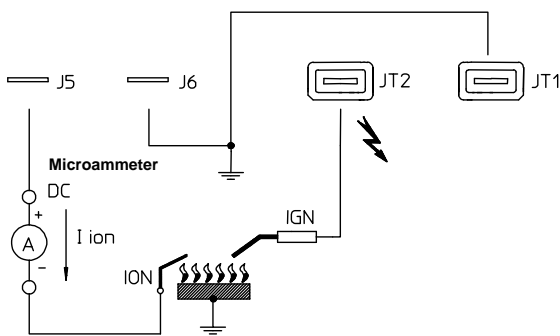

Fig. 4 – Flame signal measuring method
- the level of the flame signal should be high enough (see Fig.4 for the measuring method to adopt);